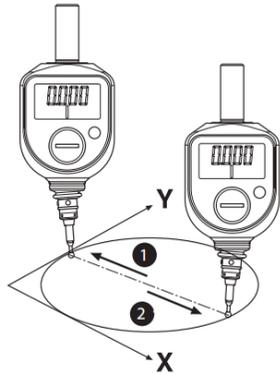

Figure 6
- Place the probe in the hole and move it along the X-axis until the 3D tester contacts the workpiece and displays "0" (Figure 6).